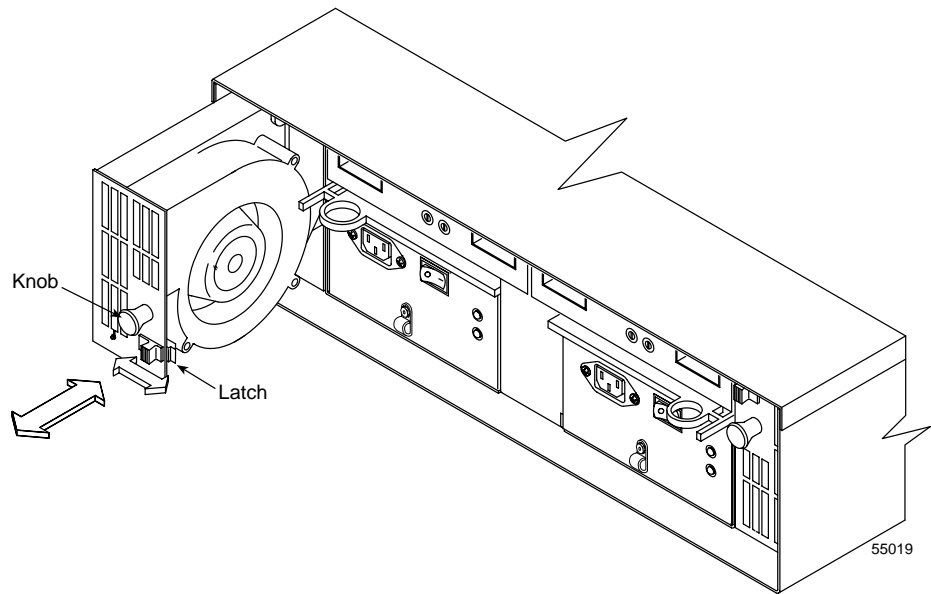

Figure 7-2 Removing and Installing a Fan Canister
6. Wearing antistatic protection, slide the latch to unlock the canister (see Figure 7-2). The latch is at the bottom of the left-side fan canister, and at the top of the right-side fan canister.